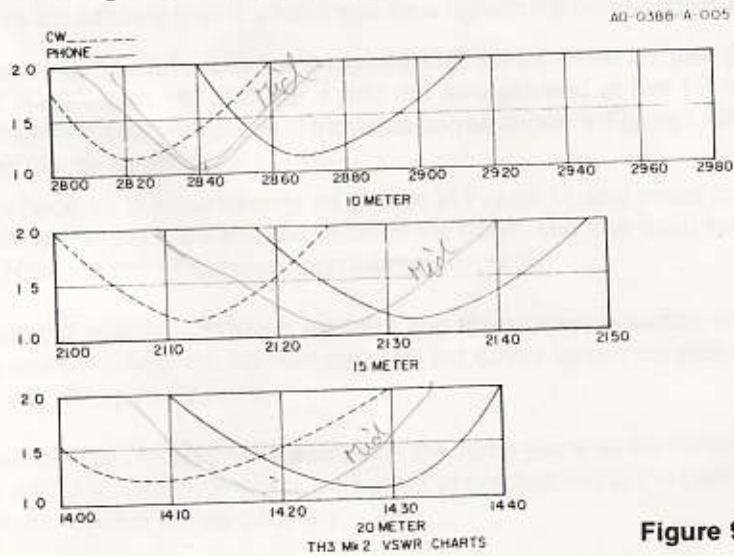

Figure 9
Determine which mode of transmission you will use — either phone or continuous wave (CW). Dimensions for both are shown, but only one mode must be used throughout the assembly of the antenna. Trying to use phone dimensions on one band and CW dimensions on another band will give less than optimum results on both. The typical VSWR charts shown in Figure 9 will help you to decide which mode is best for your use.